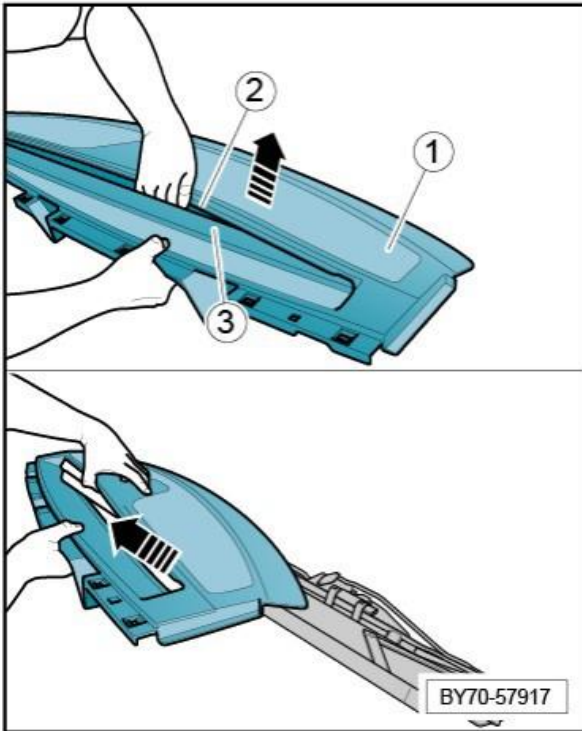

Figure 13
- Referring to Figure 13 - Carefully lift the rear parcel shelf -1- upwards, allowing the pulling bar -2- to pass through the aperture until it is clear of the aperture -3-